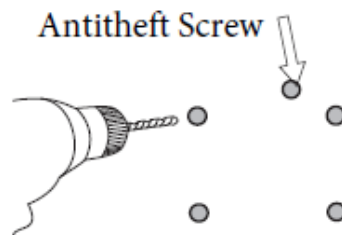

Figure 5
8. Insert anti theft screw (Fig. 5).